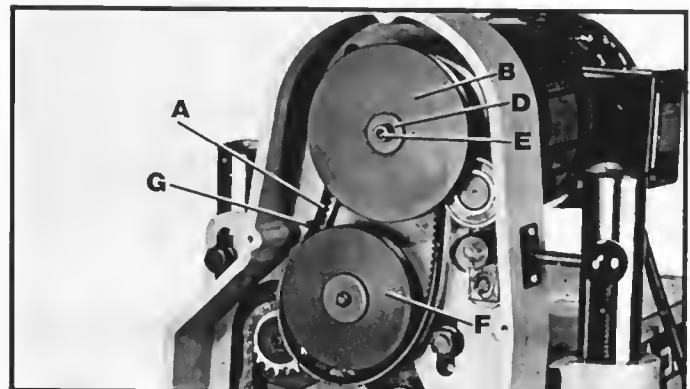

Fig. 11
2. Line up keyway in motor pulley with keyway in motor shaft and insert key. Fasten motor pulley (B) Fig. 11, to the motor shaft with washer (D) and screw (E).
3. Make certain belt (A) Fig. 11, is on the inside groove of motor pulley (B) and groove of gear pulley (F). **IMPORTANT: POSITION THE BELT (A) FIG. 11, SO THAT ITS OUTER SURFACE IS ON THE INSIDE OF ROLL PIN (G) AS SHOWN.**